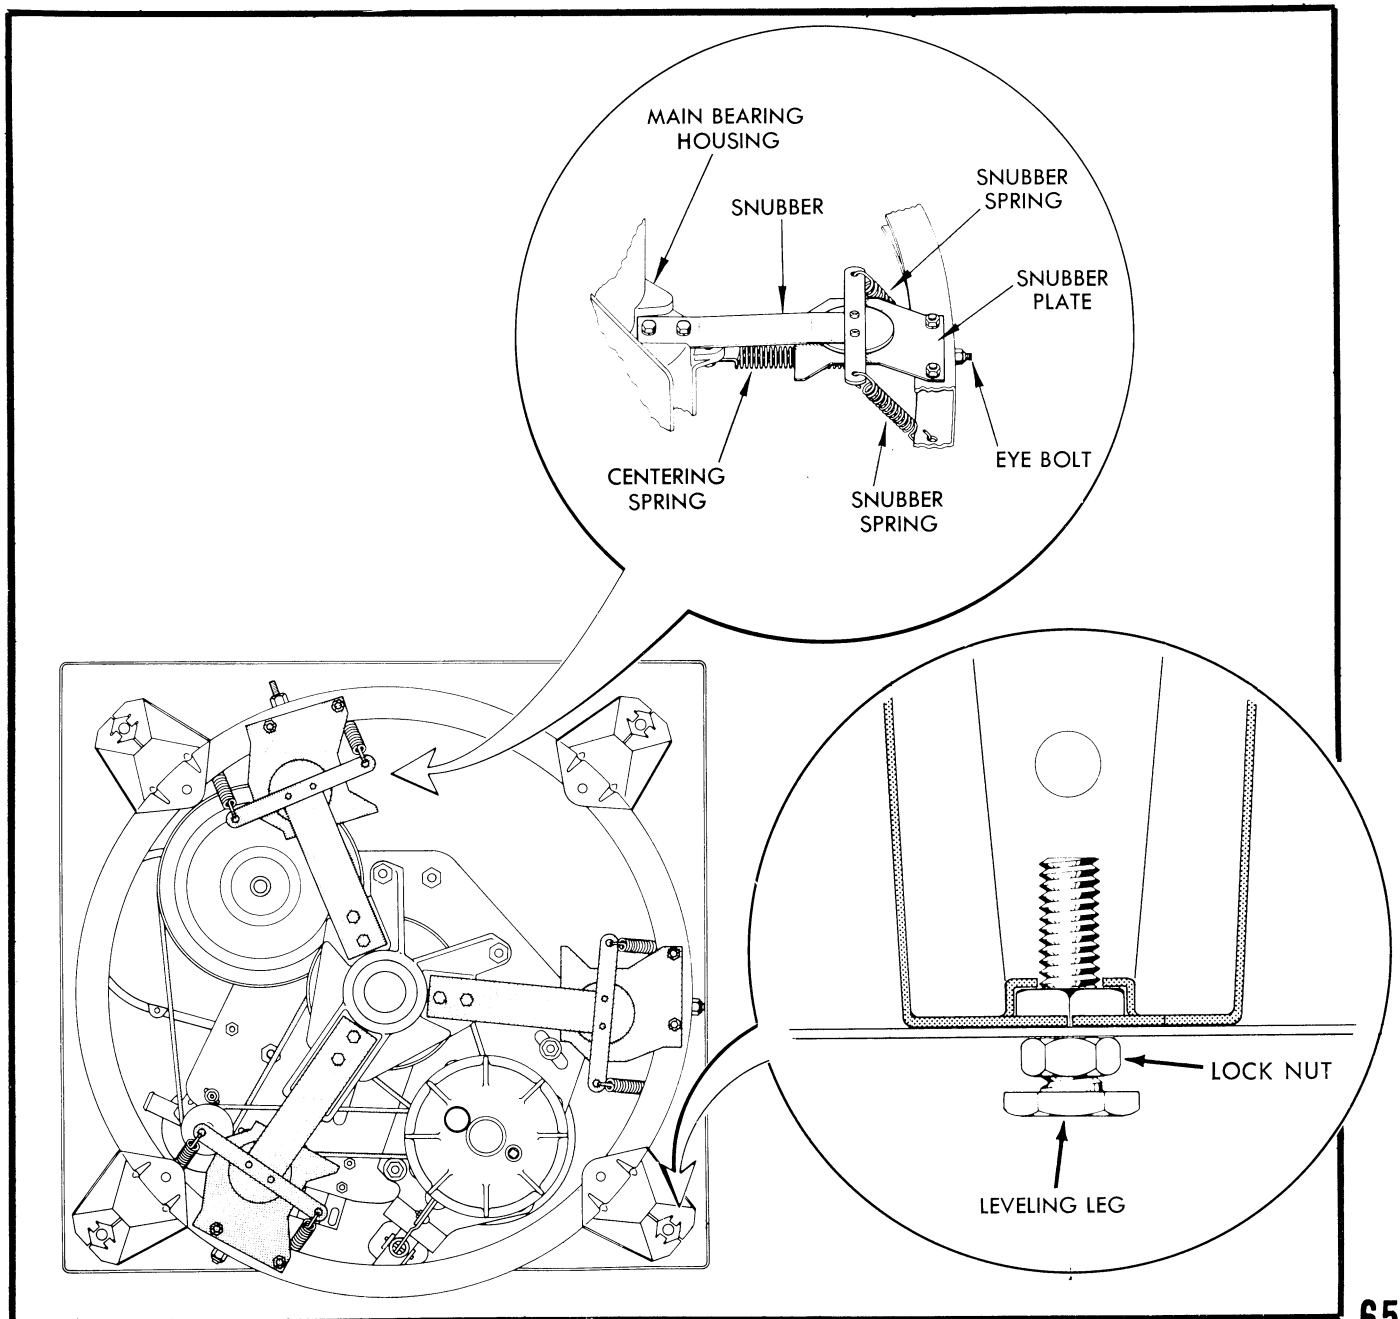

Figure 128 Snubbers and Components
8. Remove the bolts securing the counterbalance weight bracket to the main mounting plate, *Figure 128*.